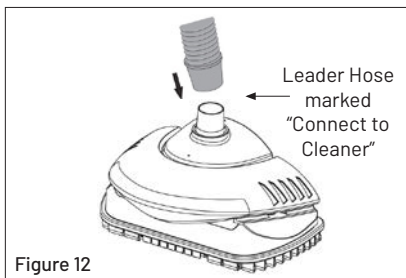

Figure 12
1. Connect the leader hose cuff of the 14" (0.36 m) leader hose to the cleaner (correct end of hose is marked), (see Figure 12).